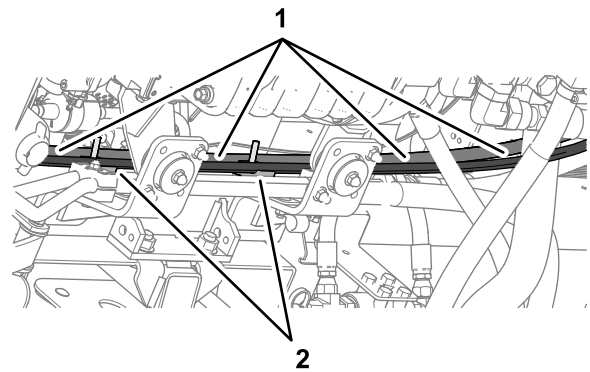

**Figure 126**
1. Route the hydraulic pump hose 10 x 2921 mm (3/8 x 115 inches—EHI steering valve port PT) with the 45° fitting into the top groove of the tube-clamp half at the upper location (Figure 126).